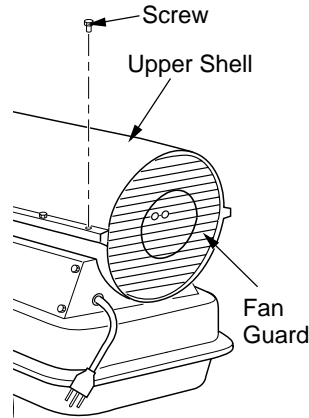
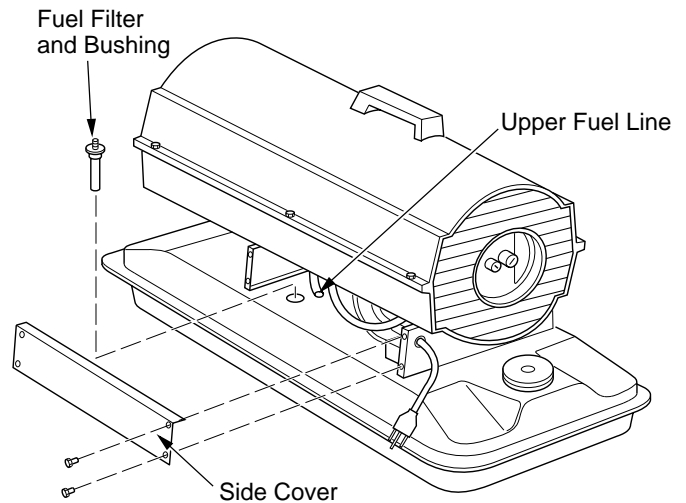
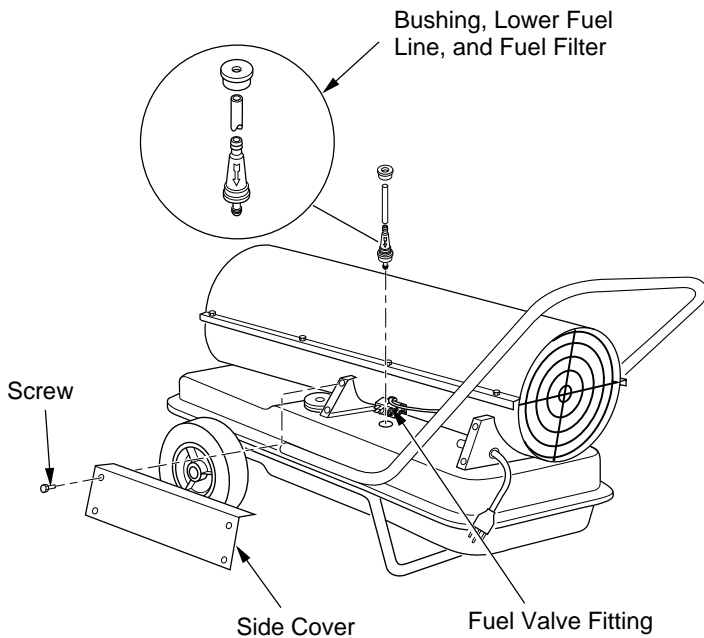

Figure 8 - Upper Shell Removal, 110/115/155/165/200 Models Only
Figure 15 - Fuel Filter Removal, 40/55/60/70 Models
Figure 17 - Fuel Filter Removal, 200 Model Only (Model with Fuel Valve Assembly Shown)
3. Pull upper fuel line off fuel filter neck (see Figure 15 or 16).
2. Remove side cover (see Figure 17).
3. Pull lower fuel line off the fuel valve fitting (see Figure 17).
1. Remove side cover (see Figure 17), fan guard, and upper shell (see Figure 8, page 8) screws using 5/16" nut-driver.
3. Remove 4 side cover screws with a 5/16" nut driver. Remove side cover (see Figures 15 or 16, page 9 or Figure 17, page 10).
12. Replace side cover (see Figures 15 or 16, page 9 or Figure 17, page 9).
2. Remove side cover screws using 5/16" nut driver (see Figure 15 or 16, page 9 or Figure 17, page 10).